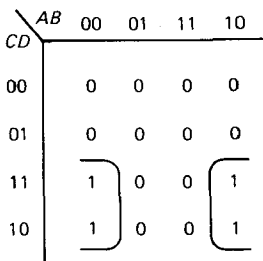

Figure 8.29
3. The edges of the Karnaugh map connect up. For instance, the map in Figure 8.29 is described by $Q = B'C$.